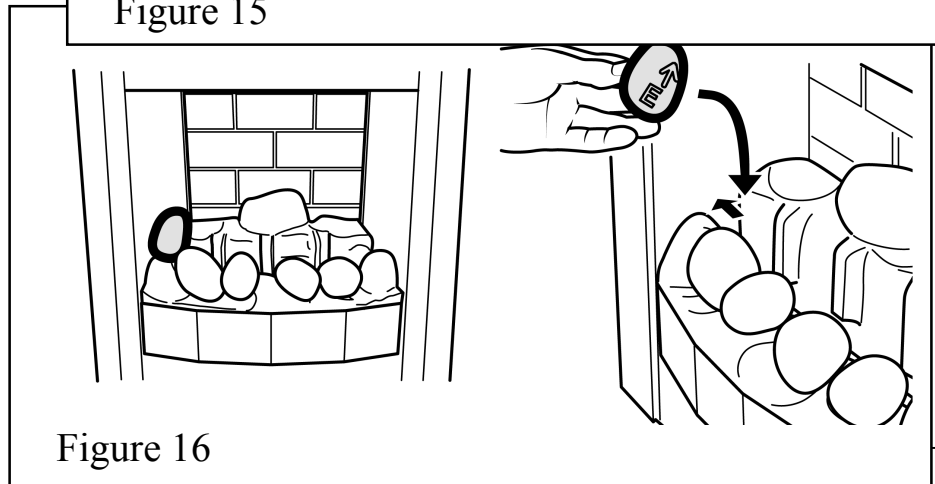

Figure 16
7. Hold pebble 'E' upright with the arrow pointing to the top. Place pebble 'E' between the front and rear base pebbles. It should rest against the side of the firebox. (See figure 16).